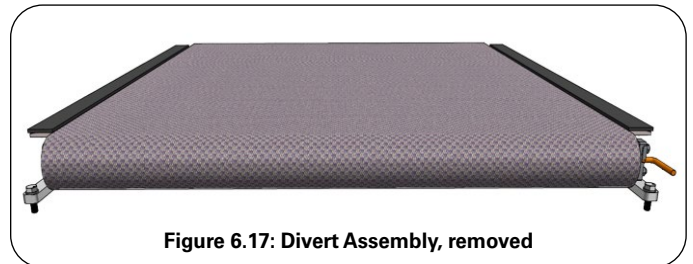

Figure 6.17: Divert Assembly, removed
- e. Remove the entire Divert Assembly from the Modsort module. See Figure 6.17.